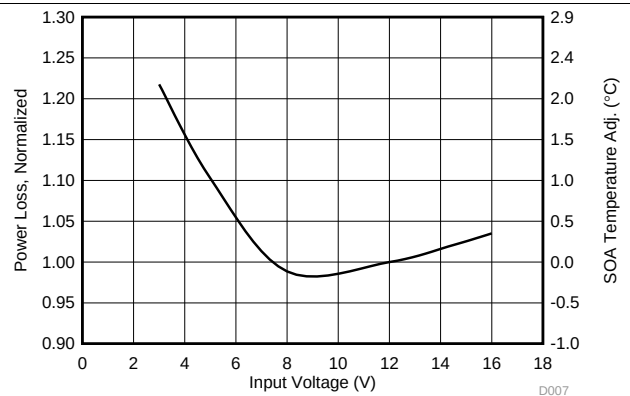

Figure 5. Normalized Power Loss vs Input Voltage
- Normalized power loss for input voltage ≈ 1.1 (Figure 5)